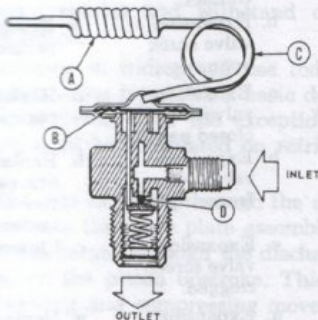

Fig. 18. Expansion Valve
Three forces combine to operate the thermostatic expansion valve: (1) Spring force below the diaphragm, (2) Suction pressure below the diaphragm, (3) Power element pressure above the diaphragm. See Fig. 18.